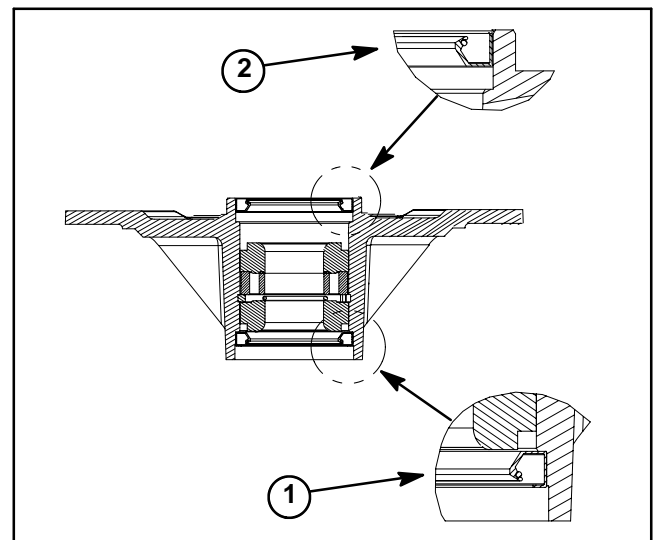

Figure 8
5. Install lower bearing cone and greased oil seal into bottom of spindle housing. **Note:** The bottom seal must have the lip facing out (down) (Fig. 8). This seal installation allows grease to purge from the spindle during the lubrication process.
6. Slide spacer ring and inner bearing spacer into spindle housing, then install upper bearing cone and greased oil seal into top of housing. **Note:** The upper seal must have the lip facing out (up) (Fig. 8).